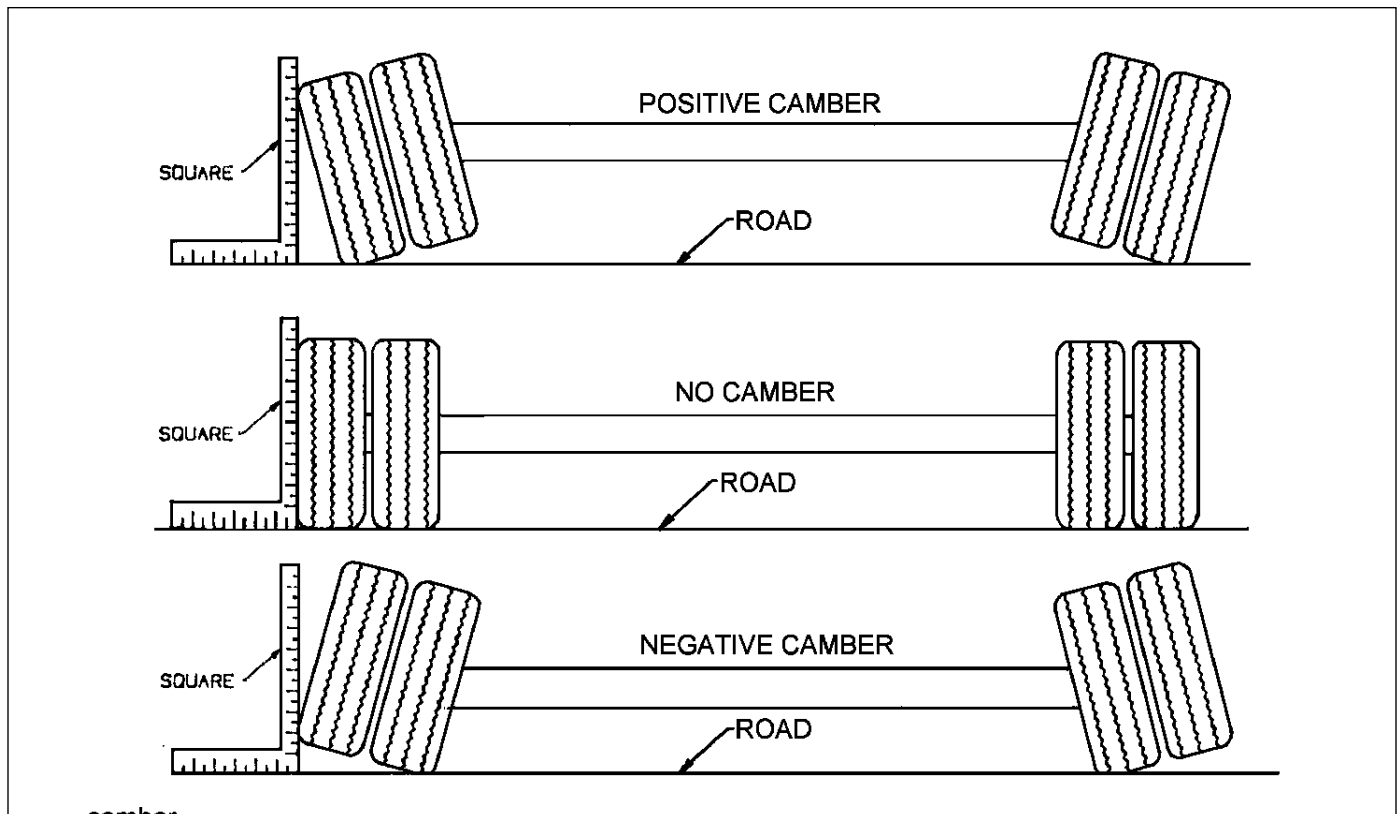

Figure 4-6: Examples of Camber
4. Follow the same procedures as in **steps 2 and 3**, except place the axle gauge above and below the axle. If gauge point gap is found, the axle has positive or negative camber. The trailer axle has no camber from the factory. If it is found to have positive or negative camber, axle replacement is necessary **(See Figure 4-6 for examples of camber).**